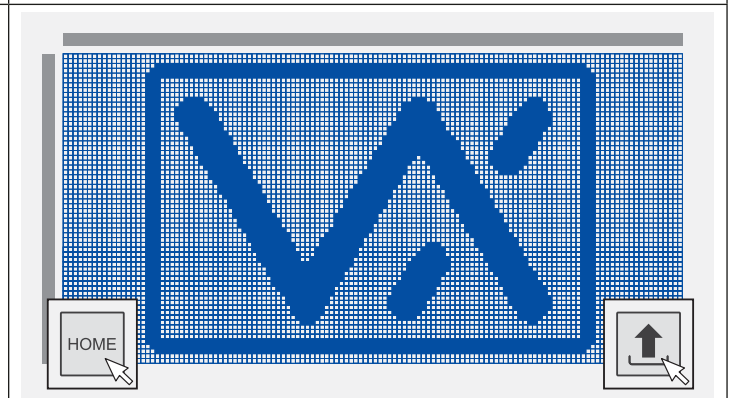
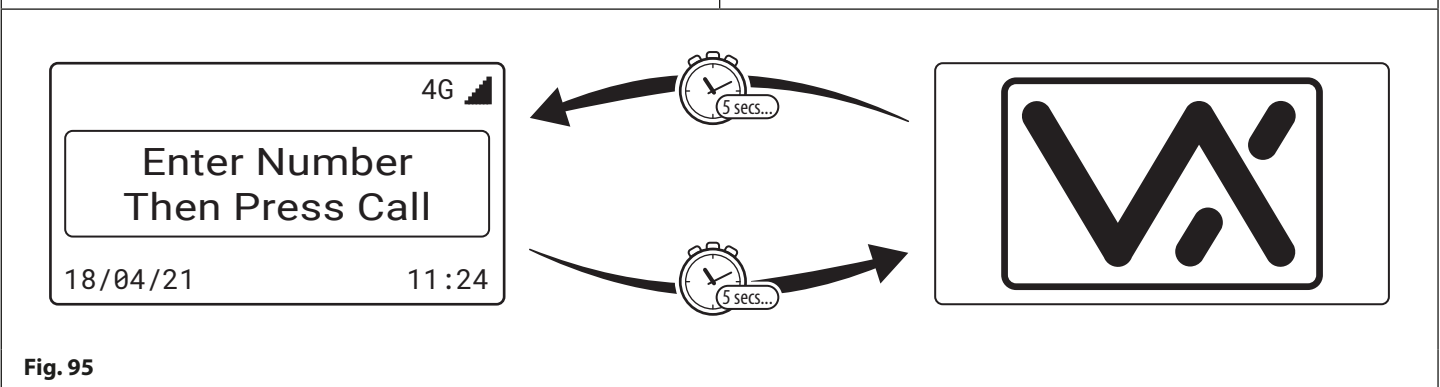

Fig. 94
Fig. 95
8. Click on the home screen icon again to toggle back to the imported image/logo from step 1 and then click on the upload to panel icon, as shown in **Fig.94**. This image/logo will be uploaded back into the panel (including any edits made to it from step 6).
After the display switch time has elapsed it will then switch to the 2nd home screen (i.e. the company logo that was uploaded from **Fig.94**) and then switch back again to the new default home (welcome) screen and so on, as shown in **Fig.95**.